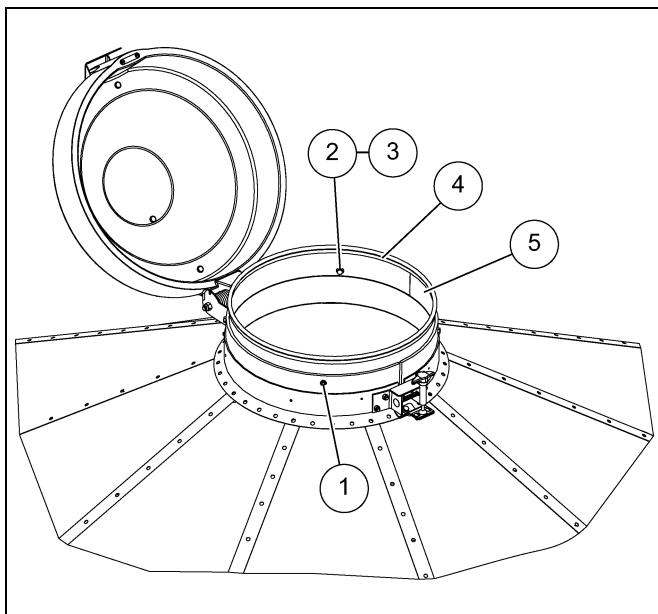

Figure 2
2. Next, assemble the peak collar extension (5) as shown in Figure 2. It is to be placed directly on top of the peak collar and then bolted to the existing rubber belting using standard bin hardware (2 and 3). It will be necessary to drill 3/8" diameter holes through the rubber belting (1).